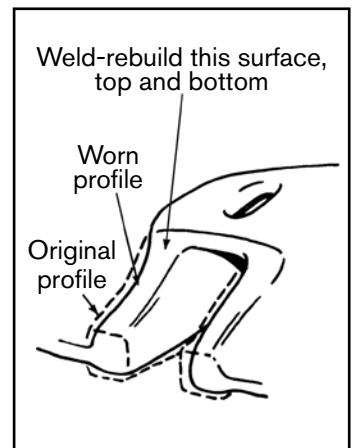

Figure 4
1. When a tooth horn wears to an extent that an oversize wedge no longer tightens the adapter to the lip, weld-rebuilding may be needed. The object of weld-rebuilding is to restore a worn lip to its original profile. See Figure 4.